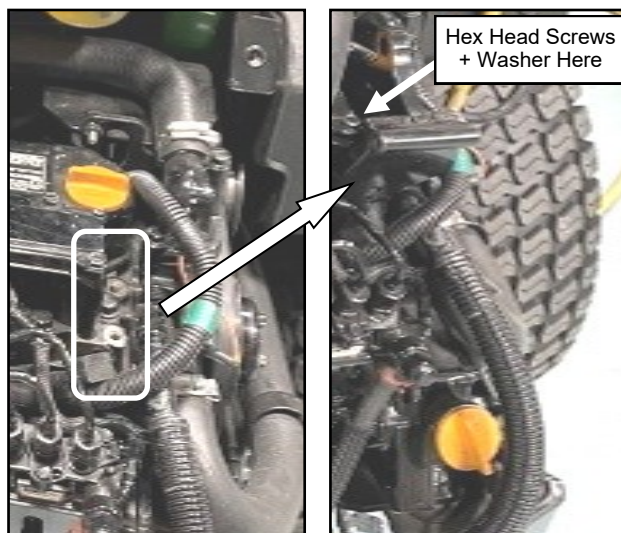

Fig. 1.32 (Install Compressor Mount onto Engine)
- 1.32** Install compressor mount on the upper right side of the engine. Use hex head screws and washers** on top holes and flange hex head screws on back side bolts. Torque screws to 19 ft-lbs (26 N-M). See Figure 1.32.